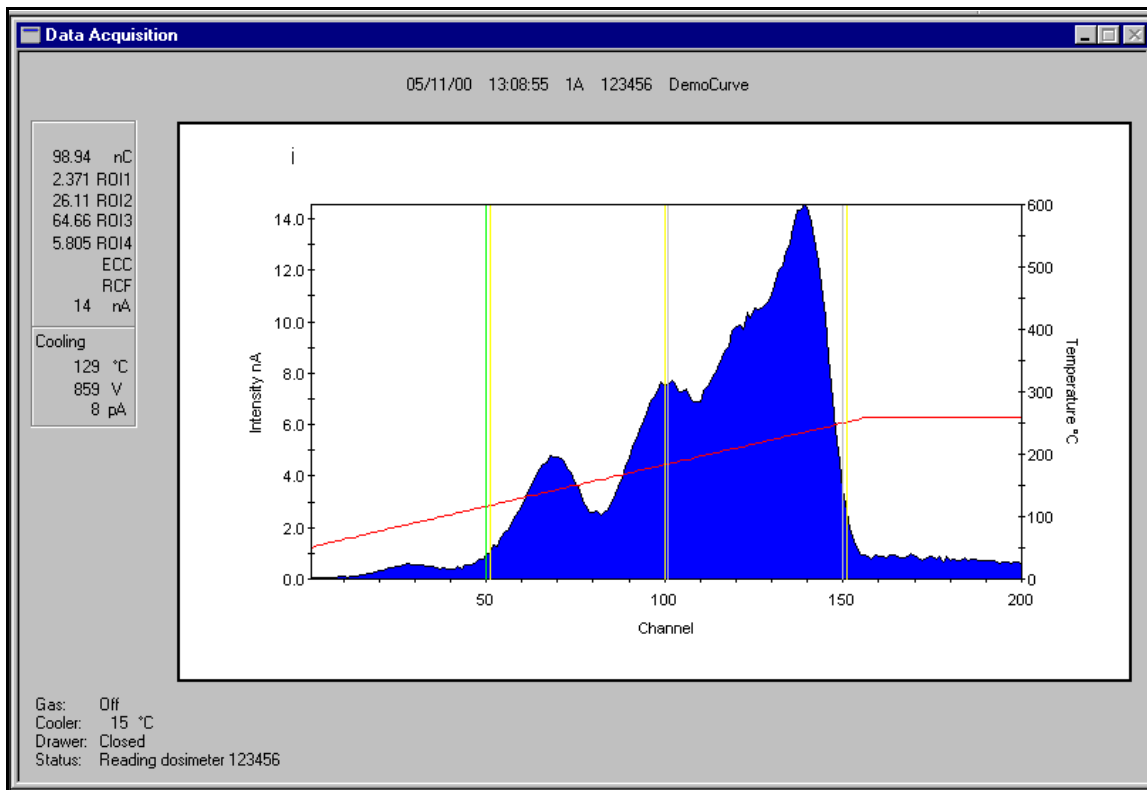

Figure 3.1 Results Screen
When the Reader is first turned on, the sensitive input to the I/F Converter may be charged positively. This would be indicated by a value of "0 pA" in the PMT tube current display on the Results Screen (Figure 3.1). Only after a sufficient negative charge is collected (from the PMT output) will the Reader be ready for operation. Since the negative charge collected is very small when the Read Drawer is closed, this may take several minutes. To decrease the waiting time, pull the drawer out to the Reference Light Position for a few seconds, until the PMT value is a positive number. If a reading is attempted before the PMT is properly charged, the operator is prompted to pull the Drawer out to the Reference Light Position. When the Reader is ready, the PMT current display will show a positive value.
The results screen (Figure 3.1) displays the results of the TLD Reading as it is being generated. The information on this screen is described in the following paragraphs.
Above the glow curve area is a line of information about the dosimeter record (examples from Figure 3.1): Date and time of the reading (05/11/00 13:08:55); TTP Number (1); Acquisition Mode (A); Dosimeter ID (123456); and Group ID (DemoCurve).